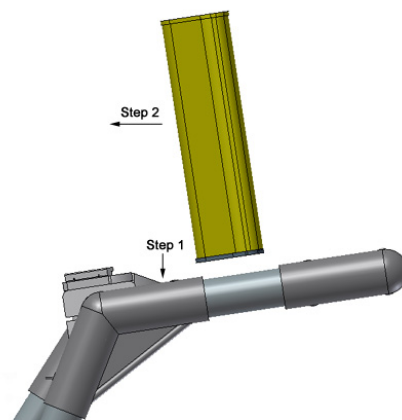

Figure: 2-8 Attaching the digital video logger (DVL). Step 1: Depress flexible clip. Step 2: Slide DVL onto shelf.
- 4) **Attach the Digital Video Logger (DVL):** The bottom of the Digital Video Logger is designed to slide onto the support shelf attached to the SmartCart (Figure 2-8). Line up the bottom of the Digital Video Logger with the shelf and slide it back onto the shelf. Push the Digital Video Logger back far enough so that the flexible clip on the front of the shelf catches and holds the Digital Video Logger firmly in place. Wiggle the DVL to make sure it is firmly snapped in before letting go of the unit. (To remove the Digital Video Logger from the SmartCart, this clip must be flexed downward as the DVL is slid forward off of the shelf.)